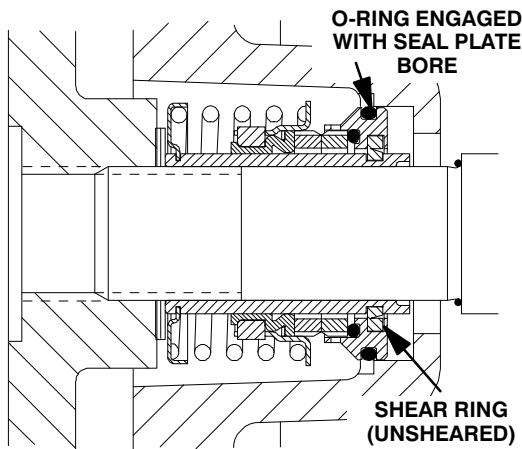

Figure 6. Seal Partially Installed
Clean and inspect the impeller as described in **Impeller Installation and Adjustment**. Install the full set of impeller shims (29) provided with the seal, and screw the impeller onto the shaft until it is seated against the seal (see Figure 6).